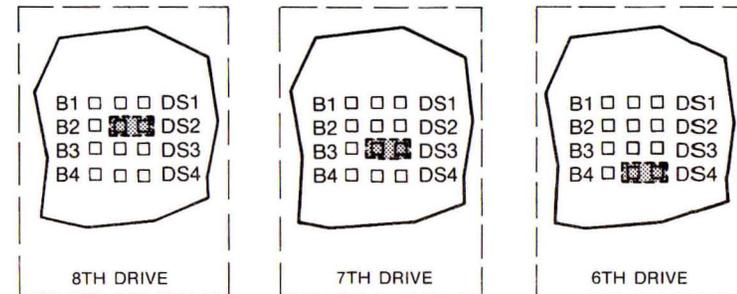

FIGURE 3-14. DRIVE SELECT DECODE JUMPER PLUGS
6. Install a jumper plug at DS2, DS3, and DS4 on each of the three drives located physically farthest away from the controller. See Figure 3-14. This will provide the three encoded select line terminations (150-ohm resistor pull-up to +5 VDC).